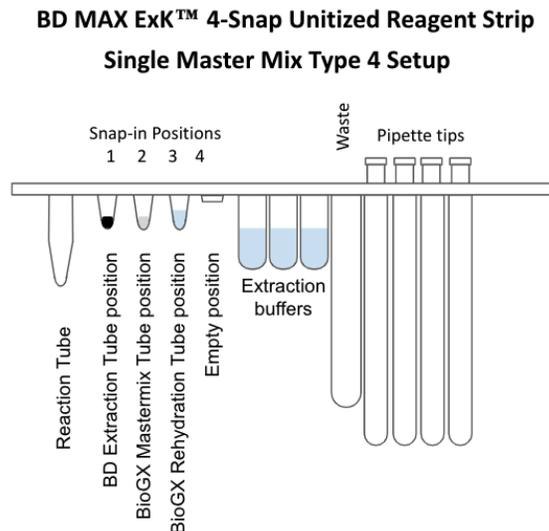

Figure 1 - Diagram of BD MAX™ ExK™ 4-snap Unitized Reagent Strips
3. Snap one BD MAX™ ExK™ DNA Extraction tube into position 1 (Snap-1) of each extraction strip (Figure 1).